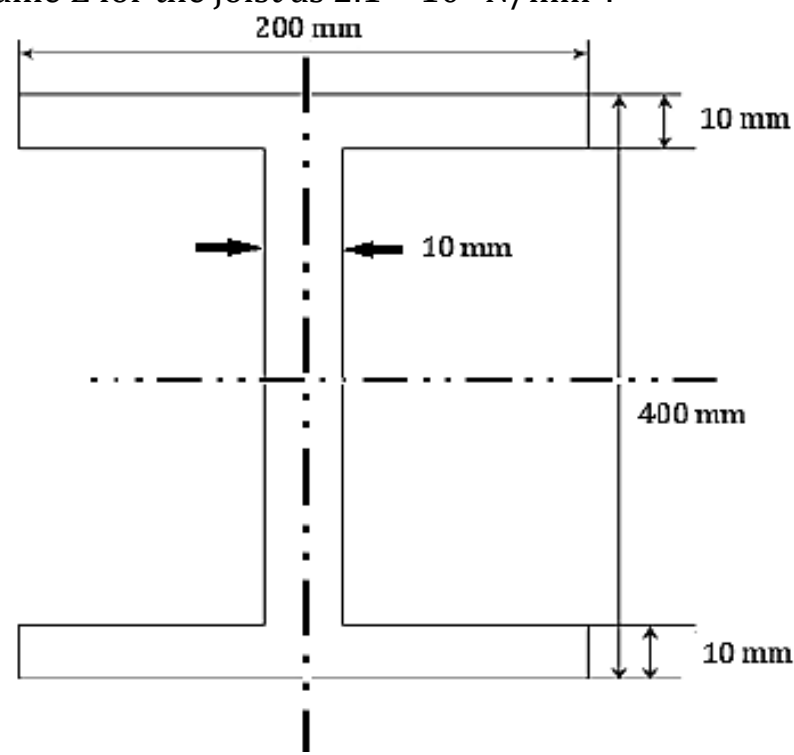

Fig. 8
- (b) Determine Euler's crippling load for an I section joist 40 cm × 20 cm × 1 cm and 5 m long shown in Fig. 8, which is used as a strut with both ends fixed. Assume E for the joist as  $2.1 \times 10^5 \text{ N/mm}^2$ .